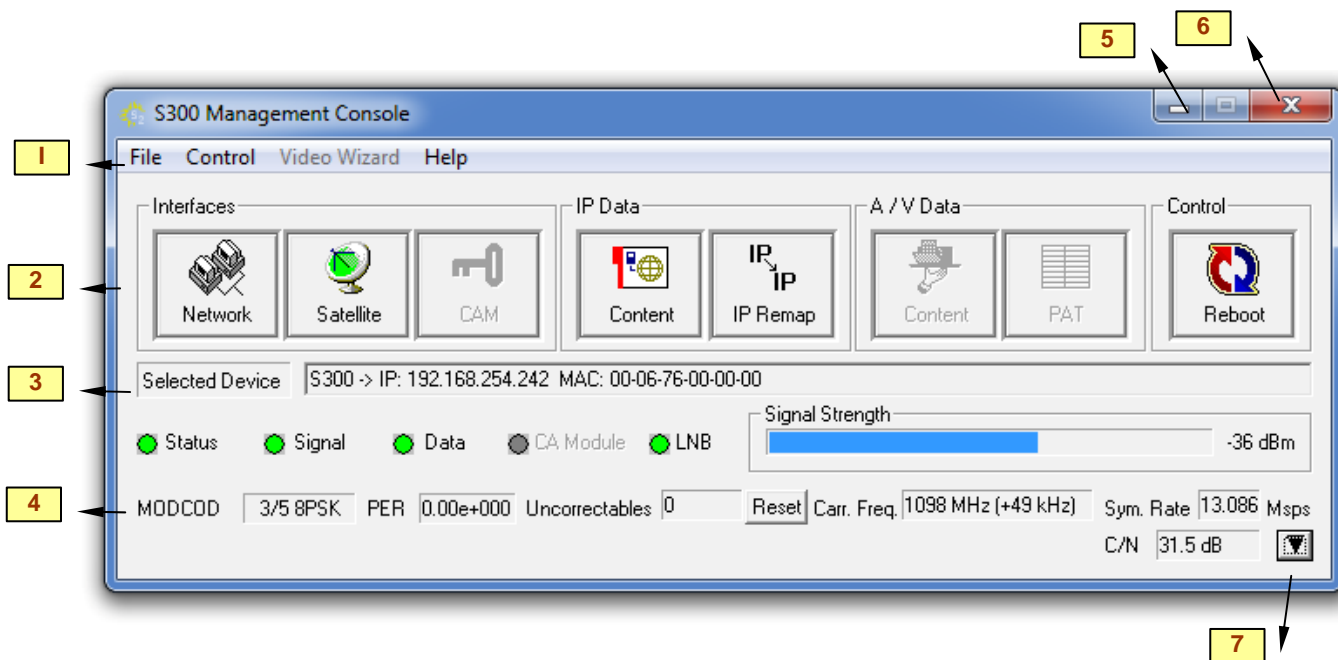
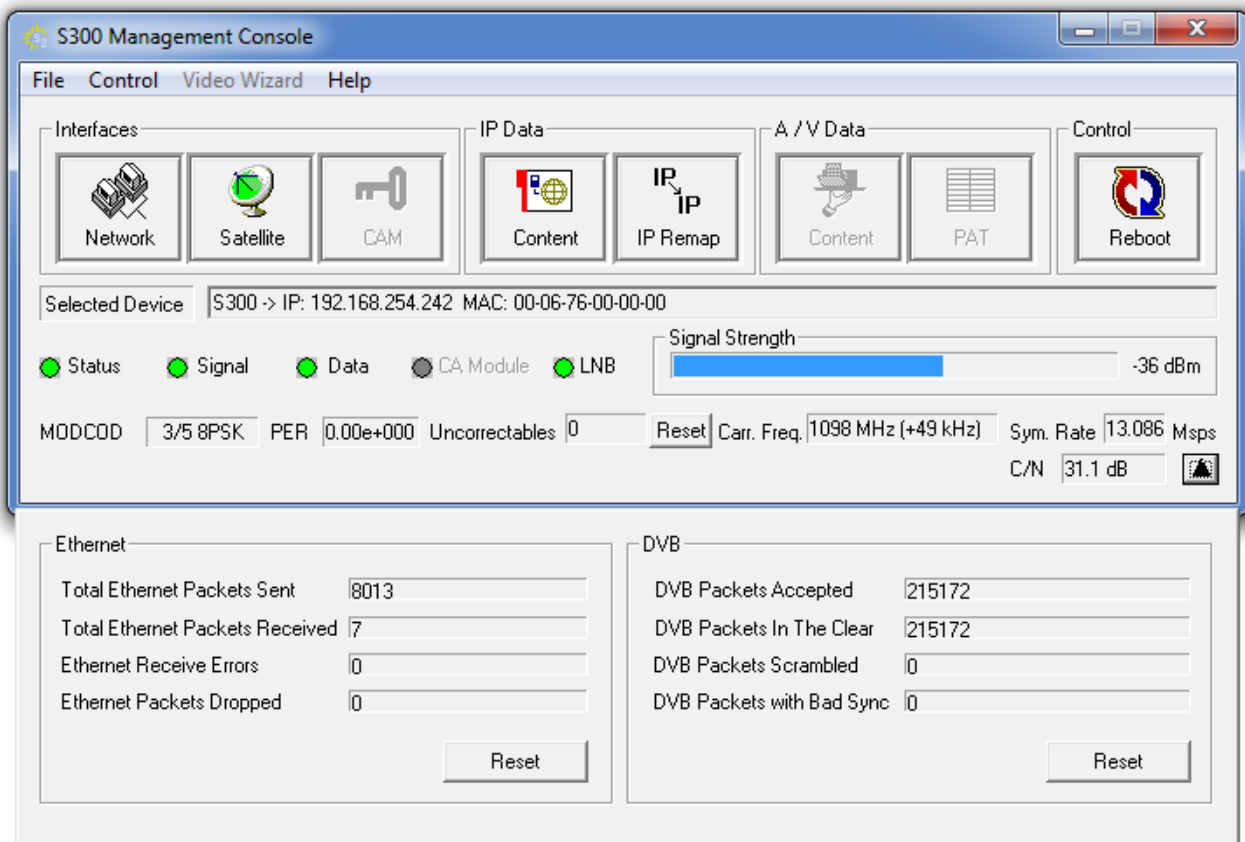

Figure 5 - S300 Console Main Screen for DVB-S2 Operation
Figure 6 – S300 Console Main Screen with Stats Window
- 5- After successfully entering the password, you will be presented with the S300 Console main screen (as shown in Figure 5 below).
Figure 5 shows a typical Main Screen setting when the S300 is operating in DVB-S2 mode. The screen provides configuration tabs as well as status information on the S300 operation. At a glance, we can determine a great deal about the status of the S300 operation, including:
The S300 provides a number of traffic counters that are useful in determining the health and operation of the receiver. These counters may be displayed in the Main Screen by clicking the down arrow located in the lower right hand corner of the screen (refer to item #7 in Figure 5 above). This expanded screen is shown in Figure 6 and the description of the counters is provided below: